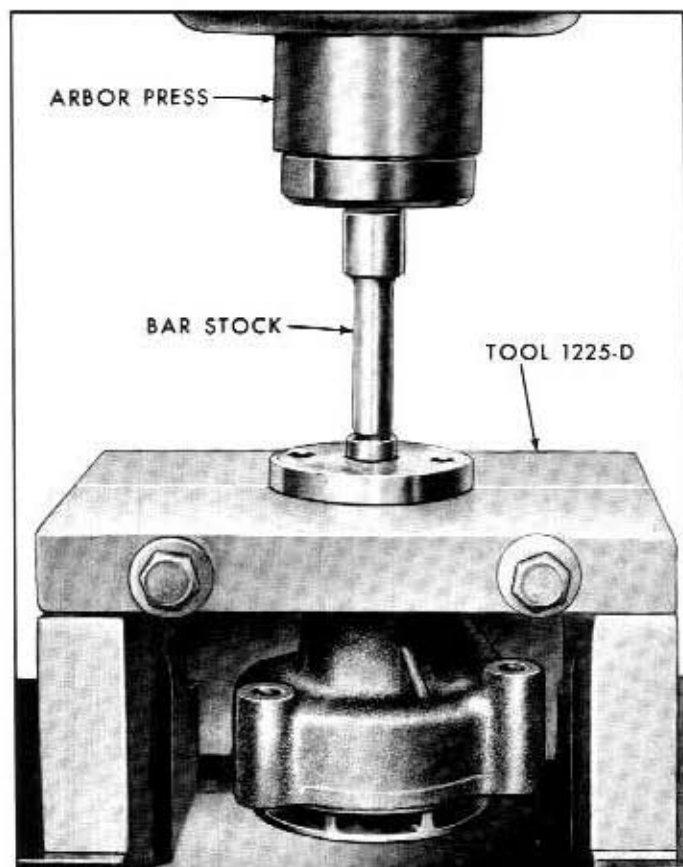

Fig. 8-5—Hub Removal—Typical—(60C-6002)
1. Use Tool 1225-D and remove the hub from the impeller shaft. See figure 8-5.